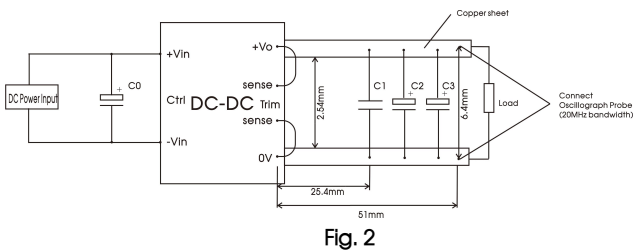

Fig. 2
^②0%-5% load Ripple & Noise less than or equal to 5%Vo. Ripple & Noise are tested according to the recommended circuit Figure 2, and the method by test shall prevail.
All the DC-DC converters of this series are tested before delivery using the recommended circuit shown in Fig. 2.